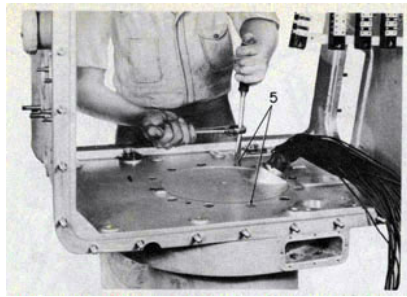

Figure 131-Fastening Case to the Inner Bearing.
5. Now, fasten the case to the inner bearing with 12 flat head machine screws. See figure 131.